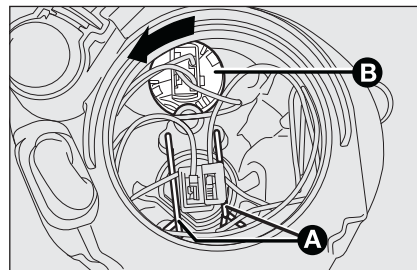

fig. 25
- release the two bulb holding clips **A**-fig. 25;
- turn the bulb holder clockwise **B-fig. 25** and withdraw it;